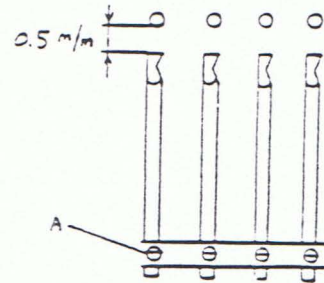

Fig.10
b) Distance of needle to the point of spreader looper (Fig. 10)